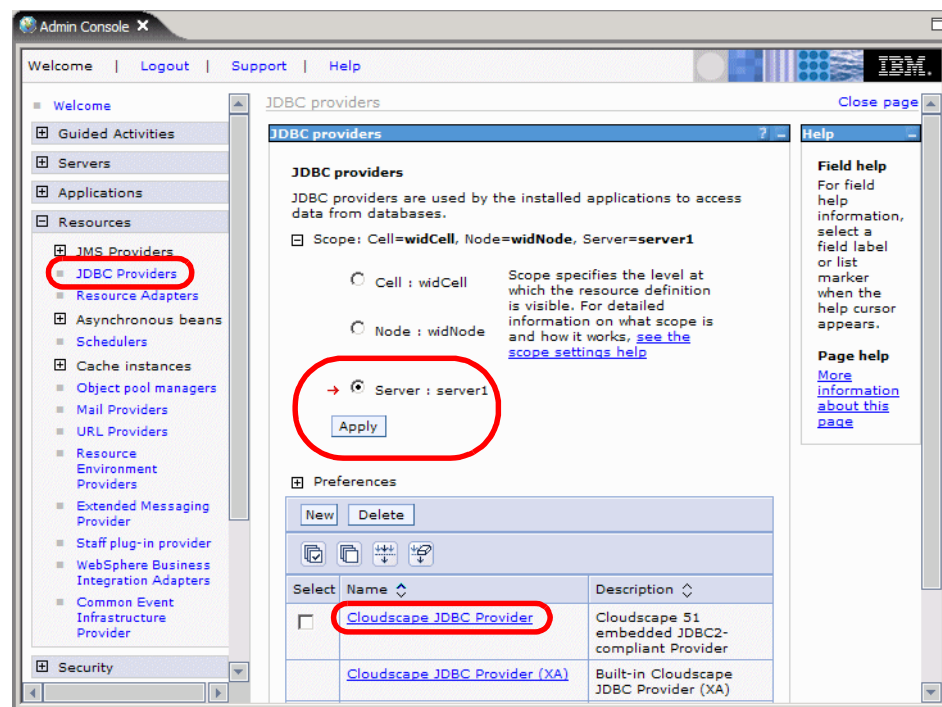

Figure 9-7 Change scope of JDBC Provider
- ▶ Select *Server* as scope, and click *Apply*. We define the data source for the CLIPTACK database at the server level (Figure 9-7).